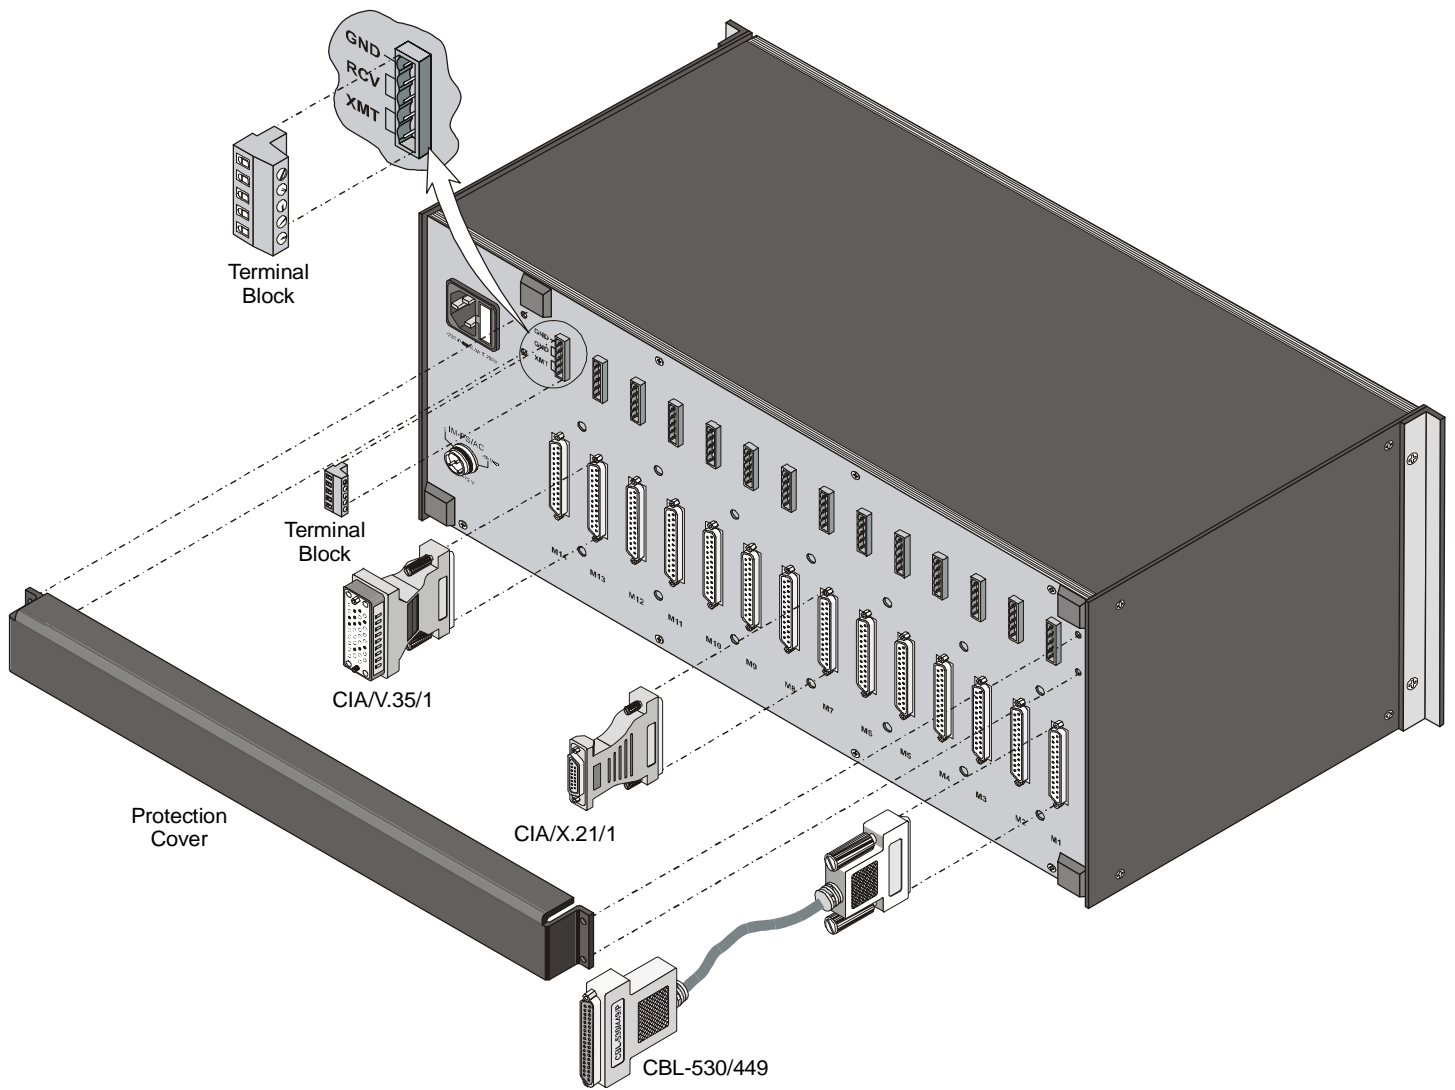

Figure 5-1. ASM-MN-214 Rear Panel
For each of the 14 cards, the rear panel (see *Figure 5-1*) contains a male connector for the terminal block and a DB-25 connector. A protection cover protects the terminal block connectors.
The terminal block (see *Figure 5-1*) is to be attached to the rear panel terminal block connectors. It contains screws for connecting the transmit and receive pairs and ground, if present.
V.36 modem cards are supplied with a RAD adapter cable CBL 530/449F, which converts between the DB-25 connector and a V.36 37-pin connector. The adapter cable and two interface attachments are also shown in *Figure 5-1*.